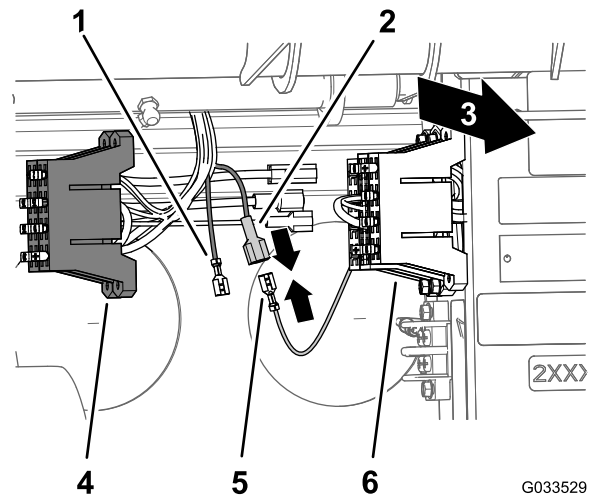

Figure 25
2. Locate the uninsulated receptacle terminal at the end of the open, yellow power wire of the fuse block for the machine and the insulated blade terminal at the end of the yellow, optional power wire of the fuse block of the sprayer wiring (Figure 25).
3. Connect the uninsulated receptacle terminal of the fuse block for the machine to the insulated blade terminal of the fuse block of the sprayer (Figure 25).